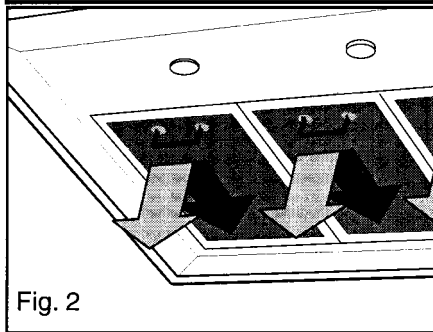

Fig. 2
- Push each handle towards the back and pull downwards Fig. 2.